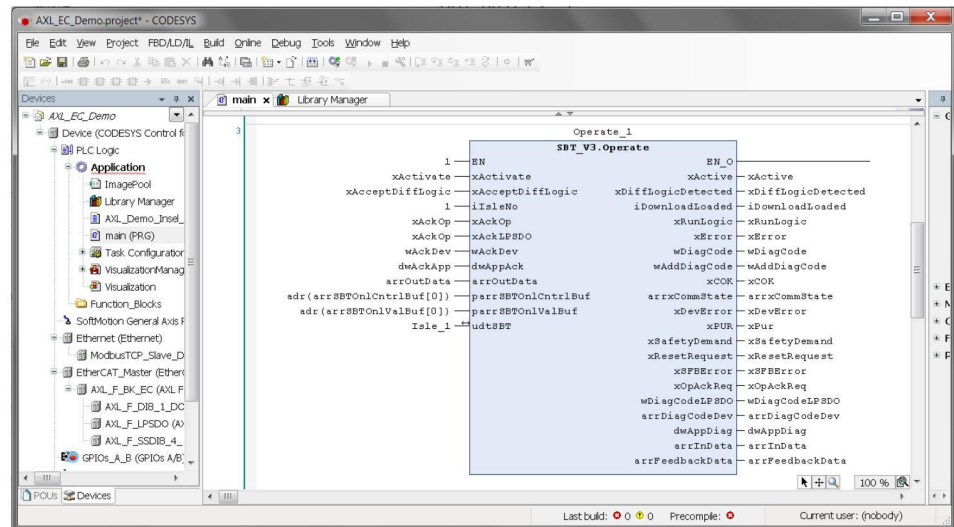

Figure 3-21 SBT_V3.Operate function block
- Connect the function block as shown in Figure 3-21.